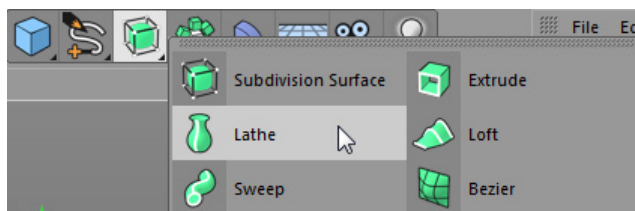
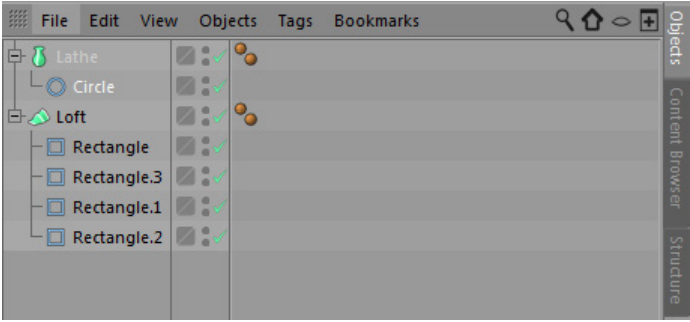

Figure 2-43 Choosing **Lathe** from the flyout
Figure 2-44 Circle connected to Lathe in the Object Manager
3. Press and hold the left mouse button on the **Subdivision Surface** tool in the Command Palette; a flyout is displayed. Choose the **Lathe** tool from the flyout, as shown in Figure 2-43; *Lathe* is added to the Object Manager, refer to Figure 2-44.
4. In the Object Manager, drag *Circle* and drop it on *Lathe*; *Circle* is connected to *Lathe*, as shown in Figure 2-44.